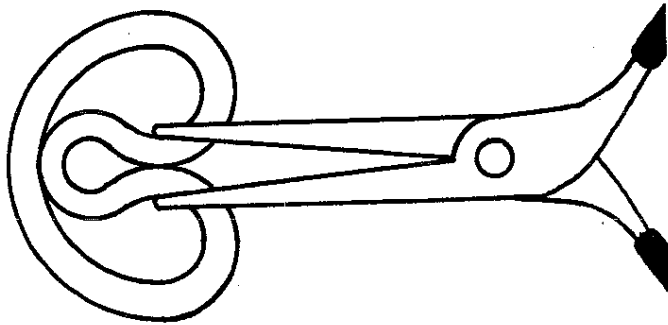

FIGURE 3. U-Cup Installation
3. POSITION THE CYLINDER WITH THE WIPER POCKET UP. GRASP THE U-CUP WITH THE NEEDLE-NOSED PLIERS (FIGURE 3) AND INSERT IT INTO THE CYLINDER. ALLOW IT TO SNAP INTO PLACE, HELPING WITH THE FINGERS IF NECESSARY.
2. POSITION THE CYLINDER WITH THE TEETH UP. GRIP THE U-CUP WITH THE NEEDLE-NOSED PLIERS (FIGURE 3) AND INSERT IT INTO THE CYLINDER. ALLOW IT TO SNAP INTO PLACE HELPING WITH THE FINGERS IF NECESSARY.